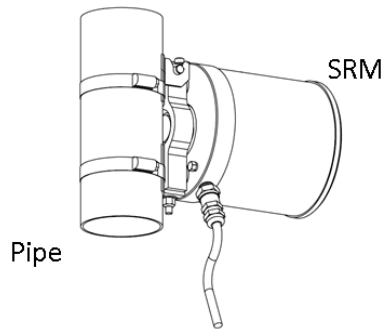

Figure 2. SRM
1. Striker/Receiver Module (SRM) – Figure 2